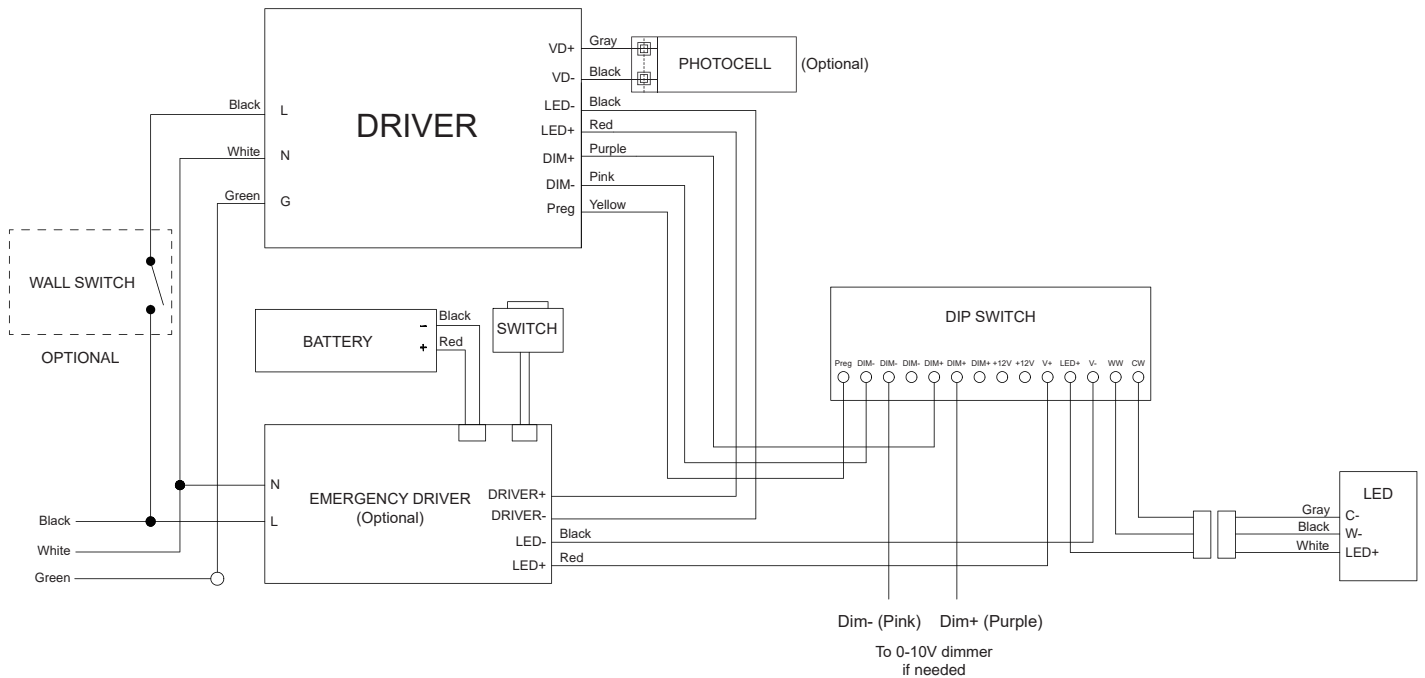

Fig4
3. Connect the battery and emergency driver, see wiring diagram. (Fig 4)